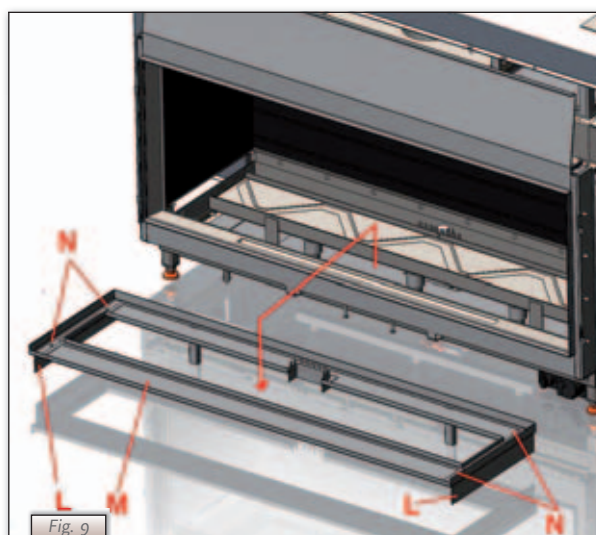

Fig. 9
6.8.2 Air inlet guides (L)
The air inlet guides (L) are located at the bottom side of the tray (M) surrounding the burner. If you want to remove them, proceed as follows (see Fig. 9)
- Unscrew the parkers (N) and remove them;